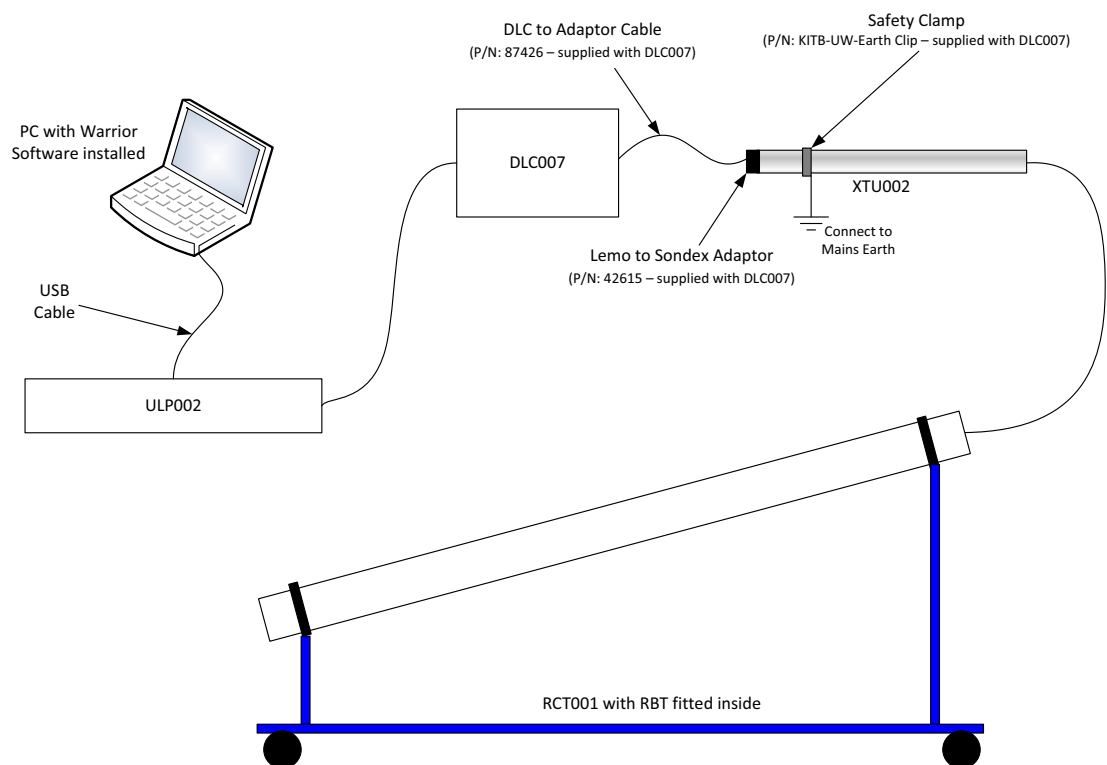

Figure 7-1 RBT Software Calibration Setup
- 4 Make sure the Connect Hyper Bottom SX (item 13, 9-5-03-000200A1) is fitted in Hyper Software Cal Adaptor (P/N: 9-5-03-000200A1).
- 5 Remove the upper Protective Male Plug (item 4, 9-4-03-0000002) and attach the Hyper Software Cal Adapter (P/N: 9-5-03-000200A1) on to the Top Sub (item 4, 3403501) of the RBT003.
- 8 Connect the remaining equipment as shown in Figure 7-1. Refer to the relevant manuals for individual equipment information. Make sure the Tool Safety Clamp (P/N: KITB-UW-Earth Clip) is fitted to the XTU002 before applying power to the setup.